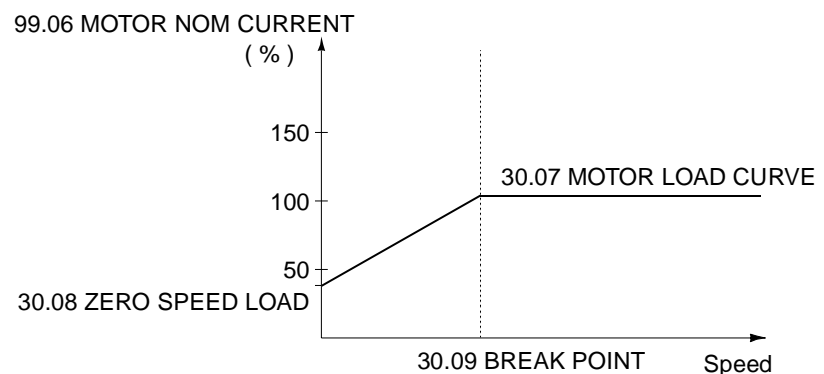

Figure 6-15 Motor Load Curve.
- Motor heating is calculated assuming a load curve (*Figure 6-15*). The motor will heat above nominal temperature if it operates in the region above the curve, and cool if it operates below the curve. The rate of heating and cooling is set by MOTOR THERM TIME.
30.09 BREAK POINT This parameter defines the point at which the motor load curve begins to decrease from the maximum value set by Parameter 30.07 MOTOR LOAD CURVE to the Parameter 30.08 ZERO SPEED LOAD. Refer to Figure 6-15 for an example of motor load curve.